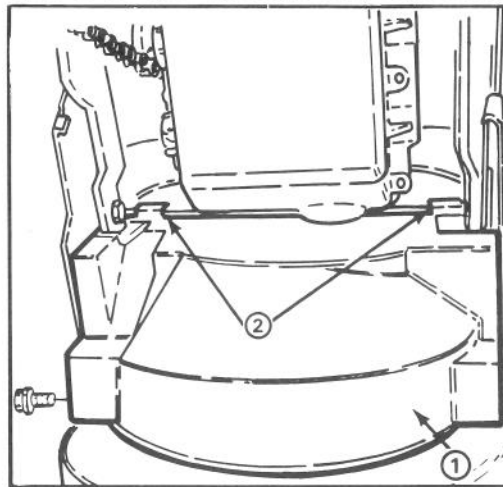

Figure 2
7. Mount lower belt cover to underside of auger housing and engine frame with (2) 1/4-20 x 1/2" lg. flange head capscrews (Fig. 2). Make sure belt cover mounting tabs are positioned to rear of engine frame member.